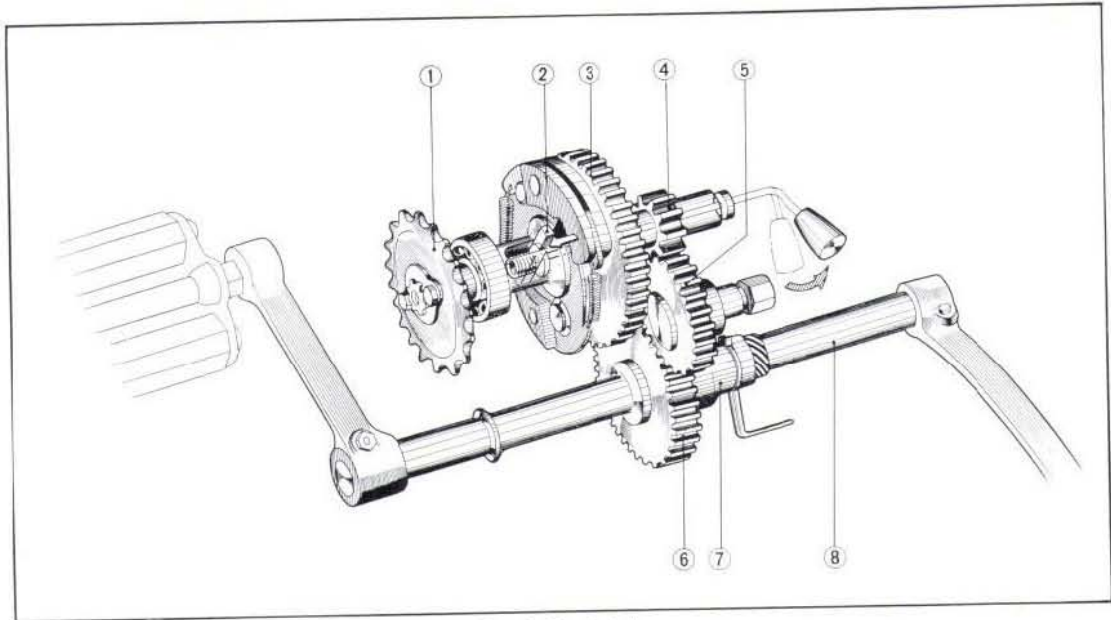

Fig. 3.66 Pedaling
Position the lever to the horizontal, "OFF" position, and the gears will move in the direction of the arrow in Fig. 3.66.
However, since the free pawl is disengaged from the groove of the transmission counter gear (45 T) ③ the transmission countershaft does not turn, however, driving force is not transmitted to the main shaft, clutch, for the crankshaft and is transmitted directly to the drive sprocket mounted on the end of the countershaft where the power is transmitted to the rear wheel through chain. (Fig. 3.66)